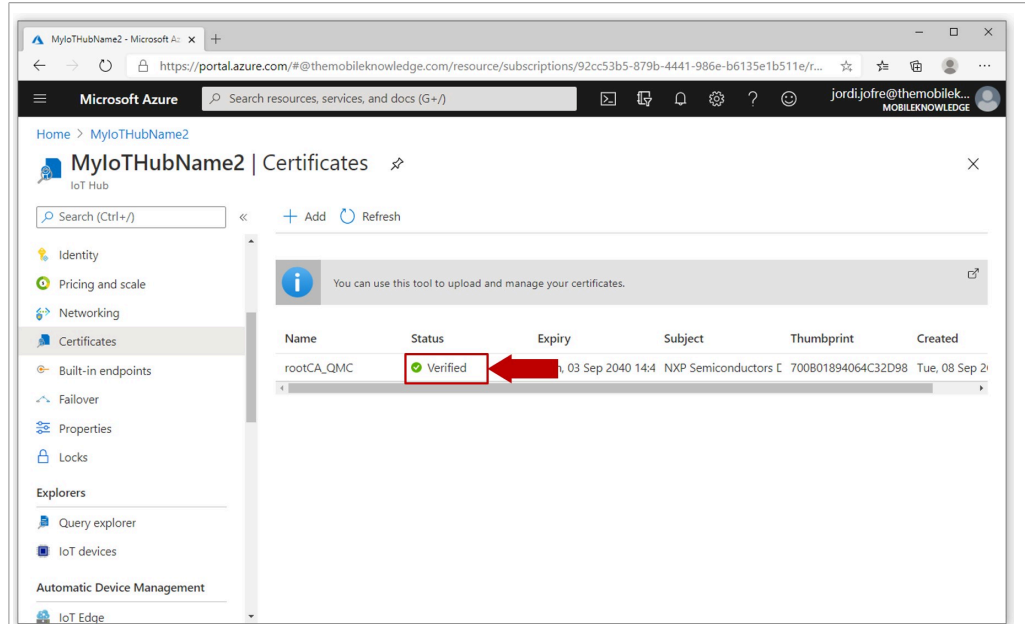

Figure 60. Root CA certificate verified
2. Check that the proof of possession verification was successful. Click on the **Refresh** icon. The certificate should have changed its status to **Verified** as shown in Figure 60. The registration of the OEM's root CA certificate is a one-time process.